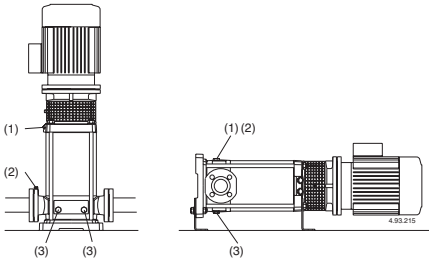
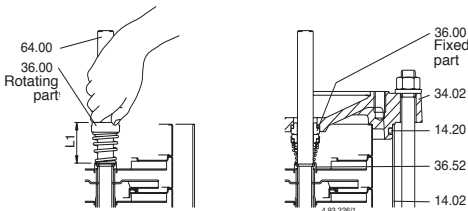

Fig.4 (1) Filling and air vent
Fig.5 Inserting the mechanical seal
When the pump is located above the water level (suction lift operation, **fig. 3A**) or with a positive suction head which is too low (less than 1 m) to open the non-return valve, fill the suction pipe and the pump through the priming hole (1) (**fig. 4**).
(2) Suction side air vent
(3) Draining
When the liquid level on the suction side is above the pump (inflow under positive suction head, fig. 3B), fill the pump by slowly and completely opening the inflow gate valve while keeping the delivery gate valve and air vent holes (1), (2) (fig.4) open to release the air.
Close the air vent holes (1), (2) (fig.4), for MXV-B, MXV(L) 25-32-40 e MXV(L)4 25-32-40 Tighten the needle screw (14.17) in the drainage plug (14.12) (fig. 4b) and close the air vent hole (14.04).
suction pipe couplings are perfectly sealed and tighten the air vent plug (2) and the draining plugs (3) on the suction side (fig.4).
Or, after draining, perform the washing operation, inserting clean water (at least 40 litres) into the filling hole (1) on the delivery side and allowing it to come out of the draining hole (3) on the suction side (**fig.4**).
Before dismantling, disconnect the power cable from the terminal box, close the gate valves in the suction and delivery pipes and empty the pump casing (**fig. 4**). For dismantling and re-assembly refer to the section drawing (**section 14.**) and **figures 5, 6**.
Push the rotating part as far as the shoulder ring (36.52) on the shaft (64.00), without compressing the spring. Check the length before and after insertion and raise the rotating ring as far as the initial length (L1 in fig.5). In this way, correct compression of the spring will be ensured when the fixed part is mounted and after the shaft is locked in the coupling (L2 in fig.6b).